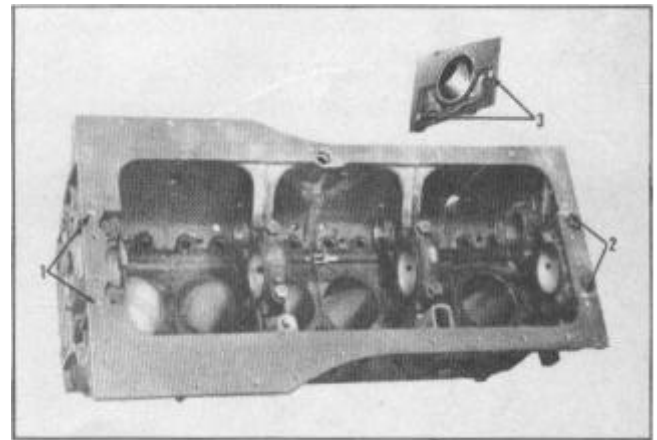

FIGURE 18
5. Install wood packing into the vertical holes (1) and (2) in front and rear caps first, then into the horizontal holes (3) of the front bearing cap, Figure 18.